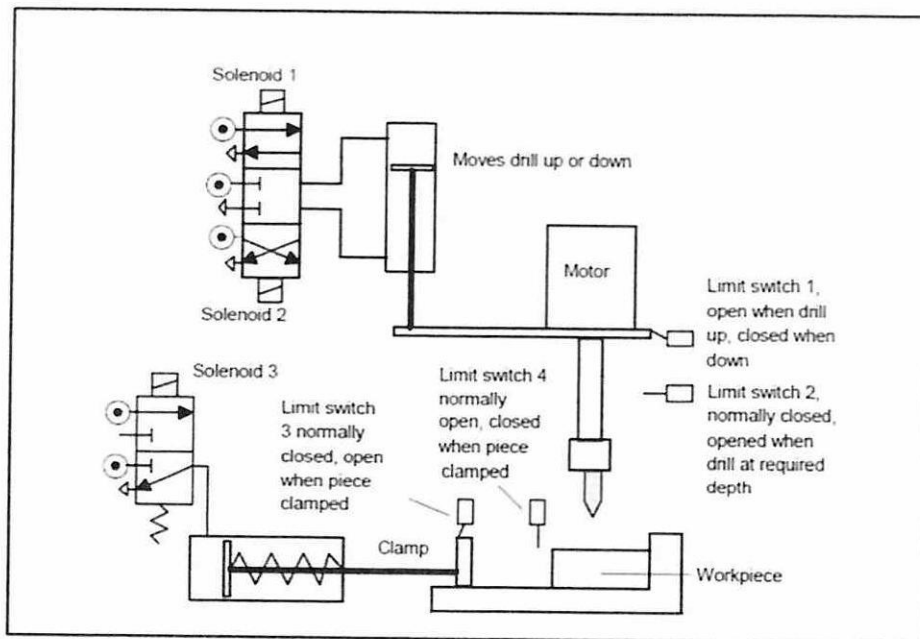

Figure Q3(a)
- (c) Sketch a ladder diagram to operate an automatic drilling machine based on **Figure Q3(a)**. The drill motor and the pump for the air pressure for the pneumatic valves have to be started. The workpiece has to be clamped. The drill has then to be lowered and drilling started to the required depth. Then the drill has to be retracted and the workpiece unclamped